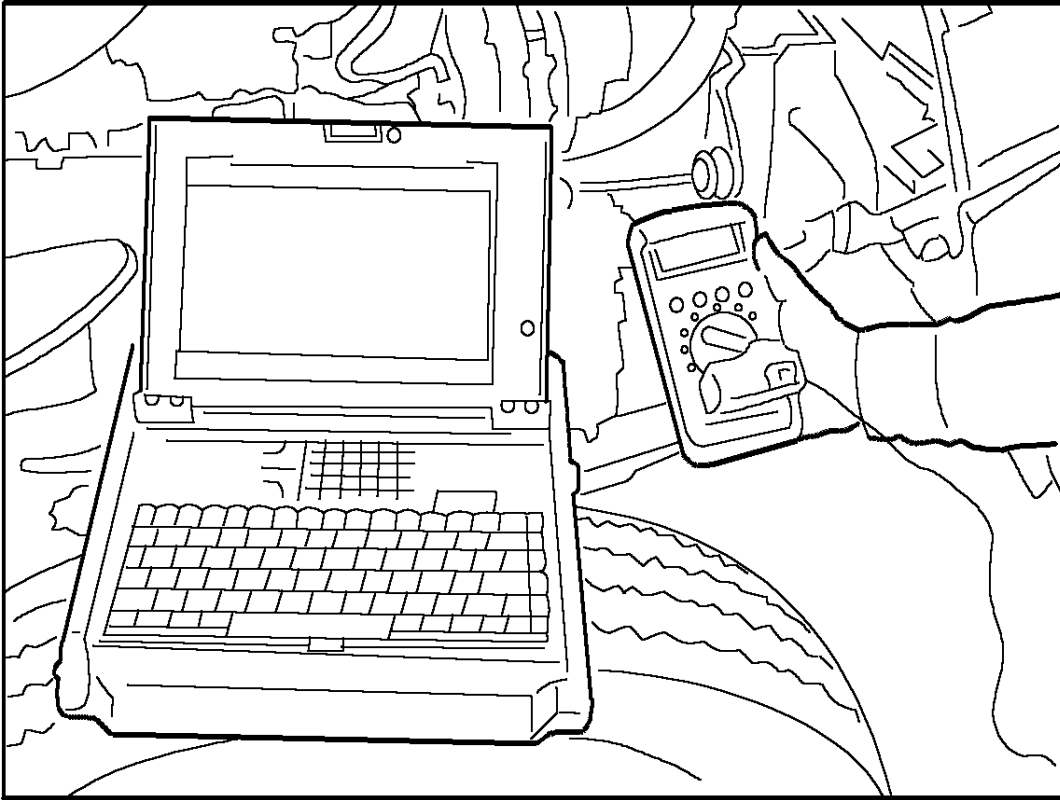

Figure 5 Measuring the Coolant and Air Temperatures
- b. As engine coolant temperature reaches 200–220°F (93.3–104.4°C)(Figure 5), fan speed should increase to 85% or more of the fan shaft RPM.
- c. The air temperature at the bi-metal or coil should be between 165°F (73.9°C) and 195°F (90.6°C) when the fan engages (Figure 5). Refer to the Borg Warner attachment for specific fan drive P/N calibration information.